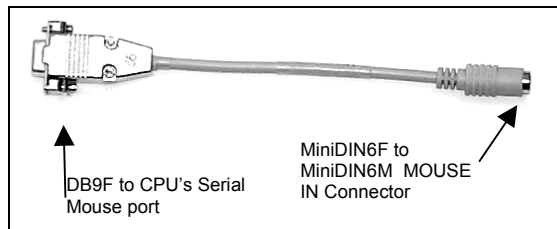

Figure 5-14 The Mouse adapter cable
- Mouse adapter cable. See Figure 5-14.
- Mouse adapter cable. See Figure 5-14 above.